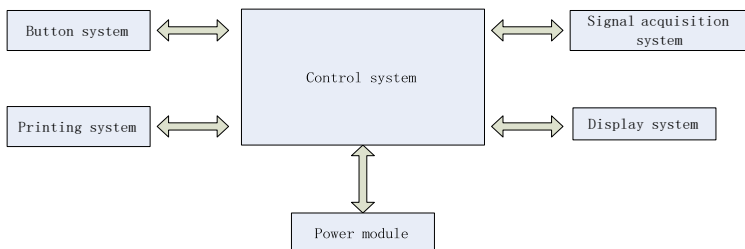

Figure 4-1 Block diagram of control unit
(2) Principle block diagram is shown in Figure 4-1.